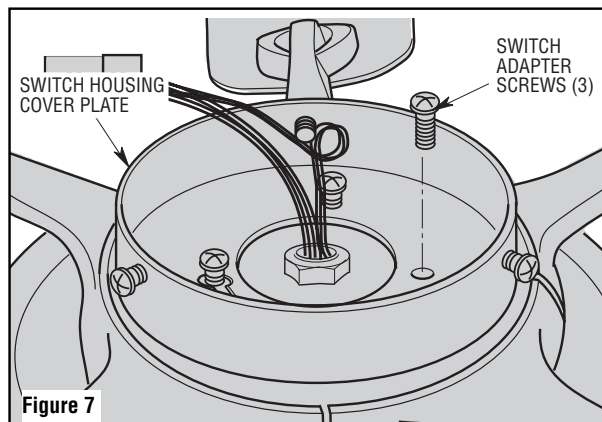

Figure 7
- Engage the keyholes of the switch housing cover plate by rotating the switch housing cover plate clockwise on the switch adapter (Figure 7).
- Install the switch housing cover plate by using the three #8-32 x 3/8" screws (supplied in the parts bag) (Figure 7).